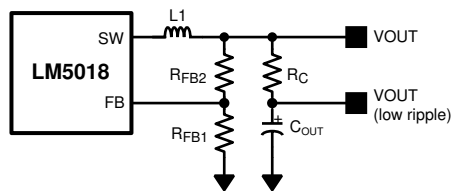

Figure 7-1. Low Ripple Output Configuration
This regulator regulates the output voltage based on ripple voltage at the feedback input, requiring a minimum amount of ESR for the output capacitor (C_{OUT}). A minimum of 25 mV of ripple voltage at the feedback pin (FB) is required for the LM5018. In cases where the capacitor ESR is too small, additional series resistance can be required (R_{C} in Figure 7-1).
For applications where lower output voltage ripple is required, the output can be taken directly from a low ESR output capacitor, as shown in Figure 7-1. However, R_{C} slightly degrades the load regulation.